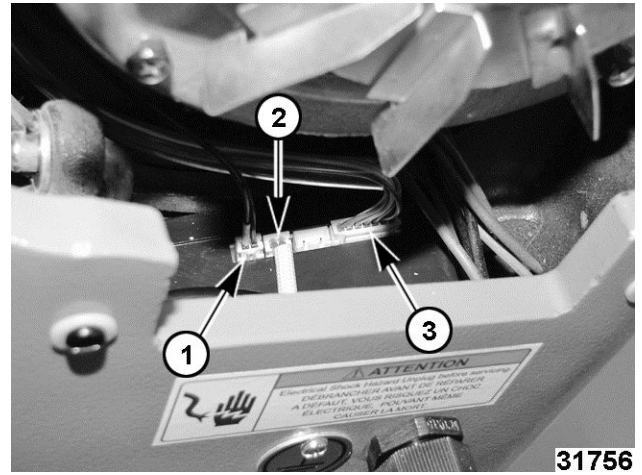

Fig. 57
3. Disconnect bowl guard switch (1, Fig. 57) from power board.